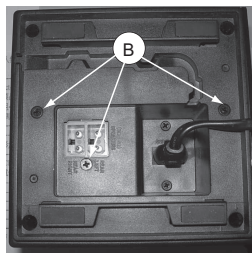

Figure 2
- 3 screws "B" on the bottom as shown in figure 2;